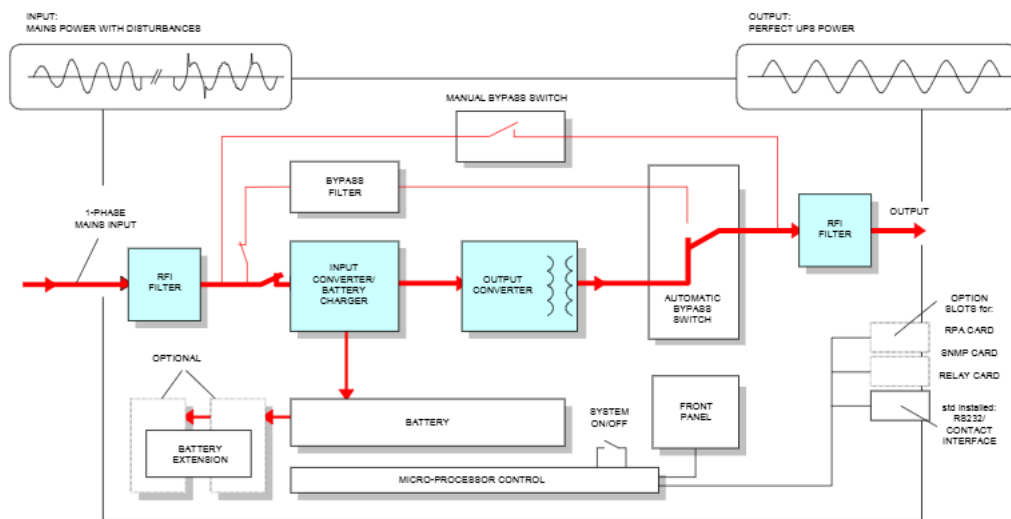

Figure 2. Block diagram of the LanPro-11 UPS, mains present
Energy is stored as Direct Current (DC), while input and output energy must be Alternating Current (AC). Therefore the UPS contains an input converter (AC to DC) and an output converter (DC to AC). (fig.2)